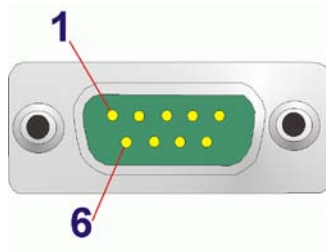

Figure 3-14: Digital I/O Connector Pinout Location
- CN Pinouts: See **Table 3-2** and **Figure 3-14**